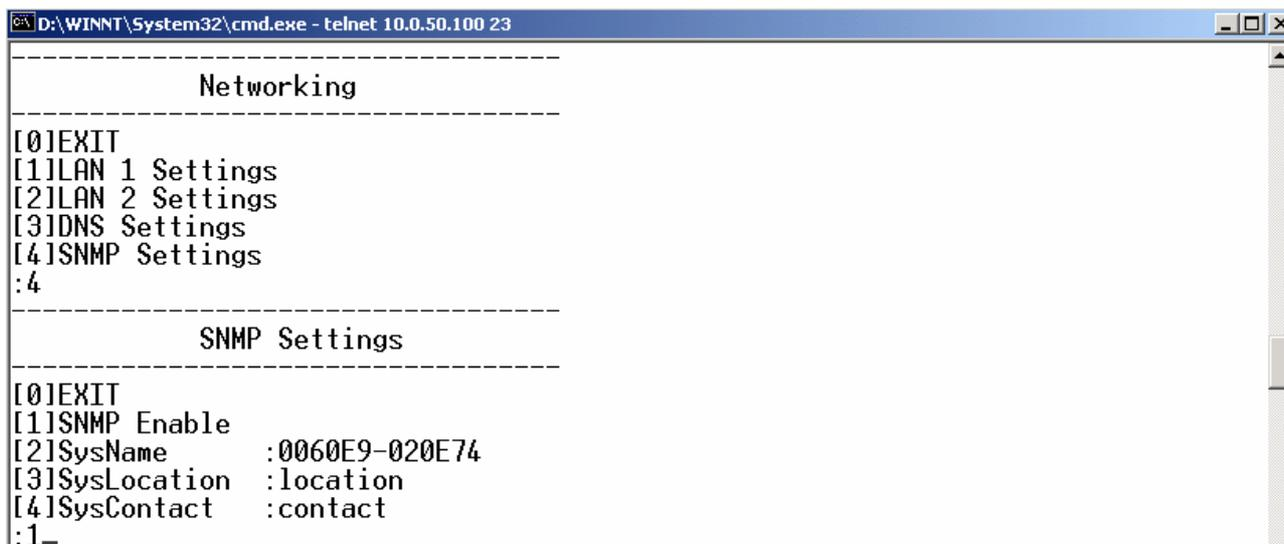

Figure 3.9 SNMP configuring using Telnet
1. Enter “4” on “Networking” to select “SNMP Settings” ( Figure 3.9)